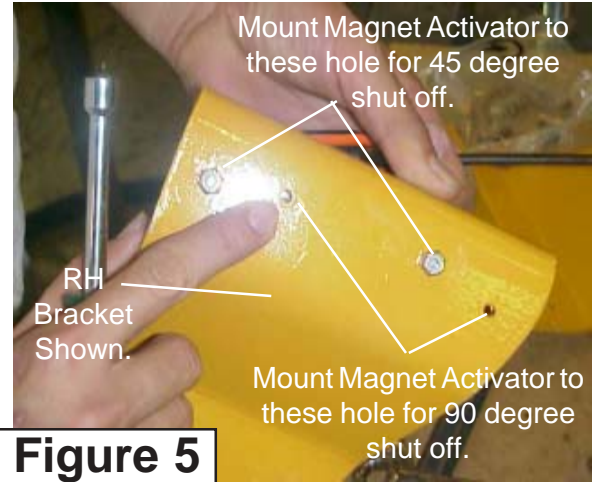

Figure 5
- 2. Assemble Magnetic Switch Activators.** This magnetic switch activator has a magnet inside and a cover that must be installed (See Figure 4). There are brackets that these bolt to. With dual wings there is a LH and RH bracket. Bolt the Magnetic activators to the brackets (See Figure 5) LH Bracket Shown). Note there are two sets of mounting holes. In figure 5 the set that have the bolts through them is used to shut wing off at 45 degree up. If the other set of holes are used wing mower will shut off at 90 degrees up. The 45 degree setting is recommended for standard applications.